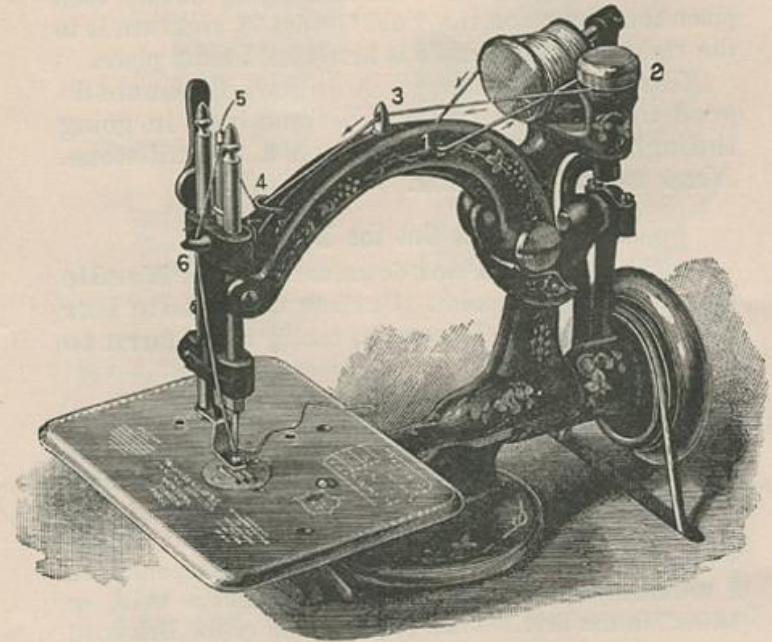

Fig. 9.—SHOWING THE MANNER OF THREADING UP THE MACHINE.
\*1. Thread from the back toward you, through the two staples and hole in arm known as **Pull-off** (1 fig. 9). Pull through about six inches of thread.
2. Carry thread between spool and **Automatic Tension**, drawing the thread into the slot under the cap of tension, (2 fig. 9).
3. Thread from right to left through the **Thread Pin** on top of frame (3 fig. 9).
4. From right to left through **Wire Staple** (4 fig. 9)
\*5. Take the thread between thumb and finger of both hands, passing it between the **Needle Bar** and **Take-up**, press it from you into the opening at the top of **Take-up** (5 fig. 9).
6. Downwards through the **Thread Pin** (6 fig. 9).
7. Through needle eye from left to right (fig. 9).
*To Fasten off at End of Work.*—Sew off end of seam *two stitches*. More than this may leave the seam unlocked. Stop with the needle up at its highest point. With the left hand catch the thread between the needle and thread pin (6 fig. 9), and pull some slack through the tension.\* With the right draw the slack through the eye of the needle, and, grasping the thread firmly, pull it upward from the work till it breaks in the goods. Lift the **Presser Foot**. Pull the work *from you*, and the end of the thread will be drawn through the loop. Pull the end of thread, which will tighten the knot and fasten off the seam. If you cannot pull any slack thread from the spool, it is because the **Needle Bar** is not at its highest point.